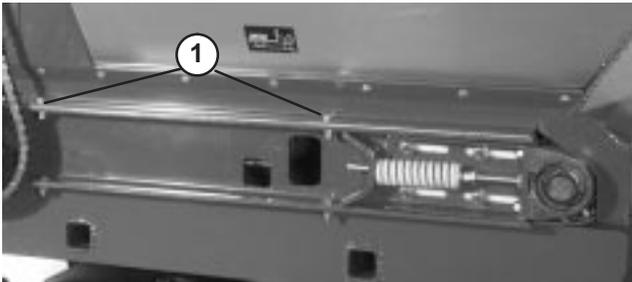

Figure 29
- Remove (2) capscrews, washers and nut, on each side of machine, securing hopper to slider bed (Fig. 29).